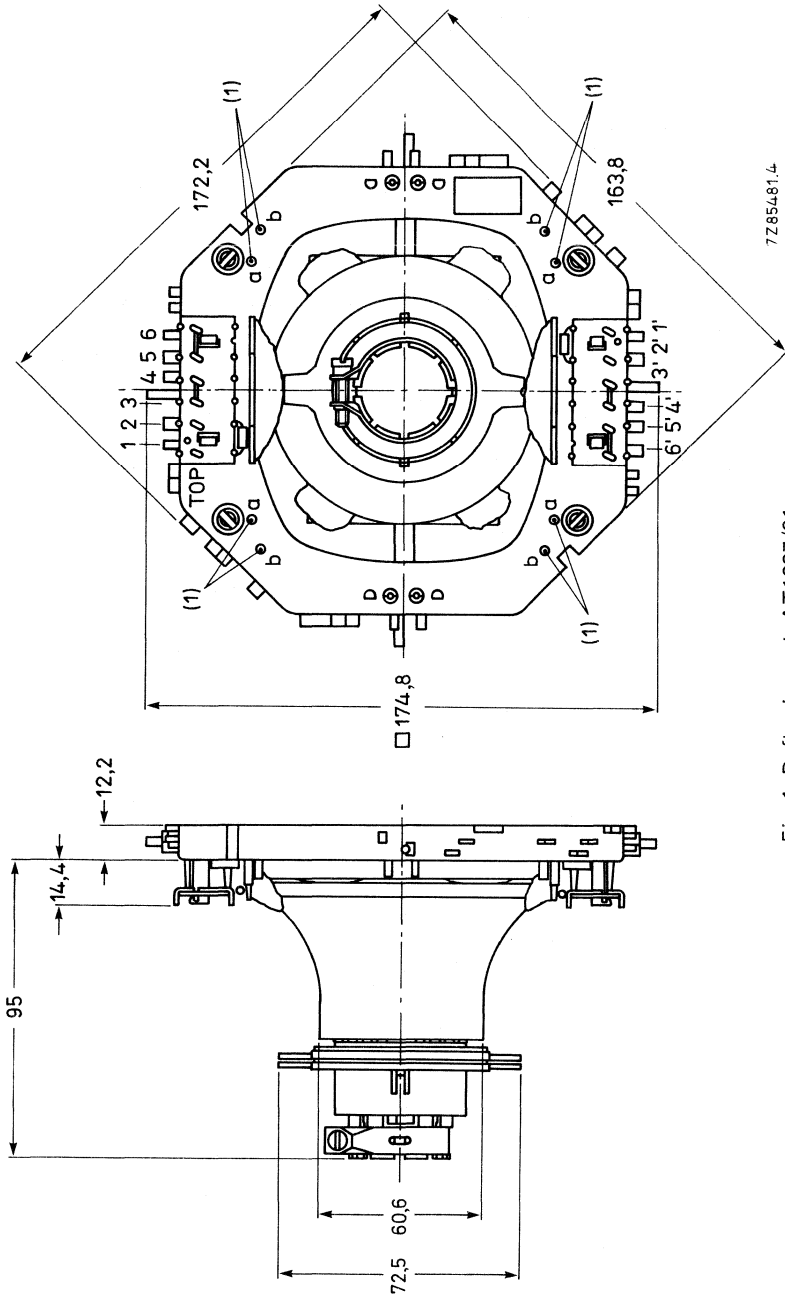
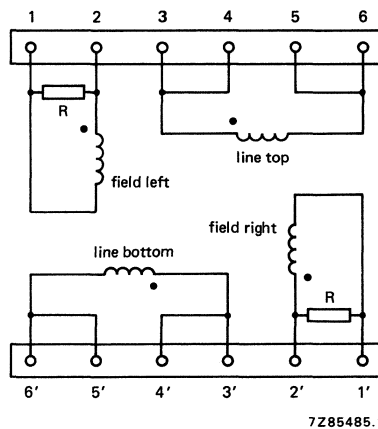

Fig. 1 Deflection unit AT1037/01.
Fig. 2 Diagram of line and field coils; R = 270 Ω. The beginning of the windings is indicated with •.
If a further improvement of raster geometry is required use can be made of correction magnets*, which must be fitted to mounting posts (1). The unit has solder pins for connection. The pin numbering in Fig. 1 corresponds to that in Fig. 2.